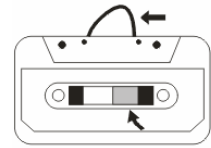

Fig.1
- a) Check that there are no loose layers of tape visible through the cassette centre window (see fig. 1).